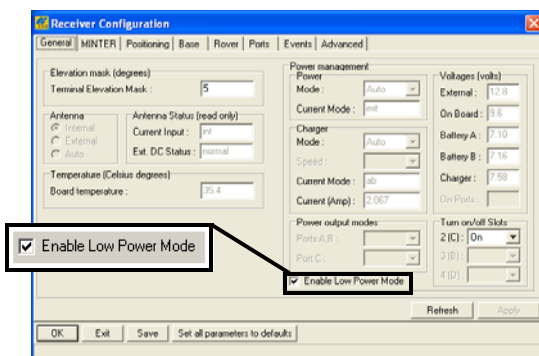

Figure 2-13. Enable and Apply Power Settings
7. Select and check the *Enable Low Power Mode* check box to put the receiver’s processor into low power consumption mode (Figure 2-13).